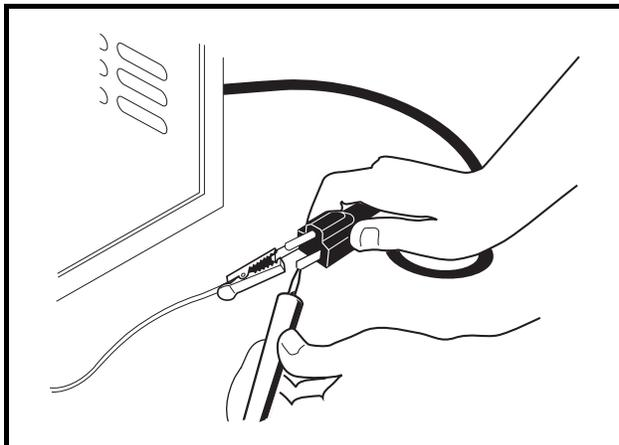

Figure 3-12 AC Cord Test
- 5.3. With relay bypassed, there should be continuity across the AC cord blades (**Figure 3-12, Page 3-15**).